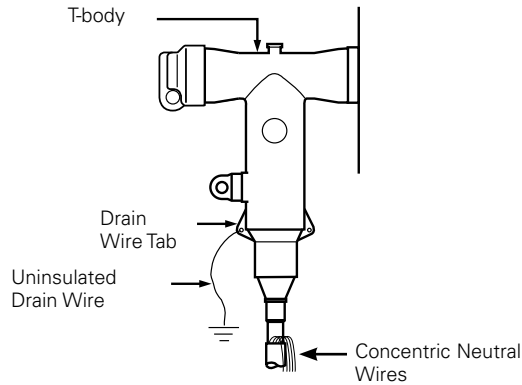

Figure 30. Installation of the drain wire.
- Connect one concentric neutral wire to drain wire tab of the T-body or use a separate uninsulated copper wire (#14 AWG/2.5 mm). Refer to Figure 30.